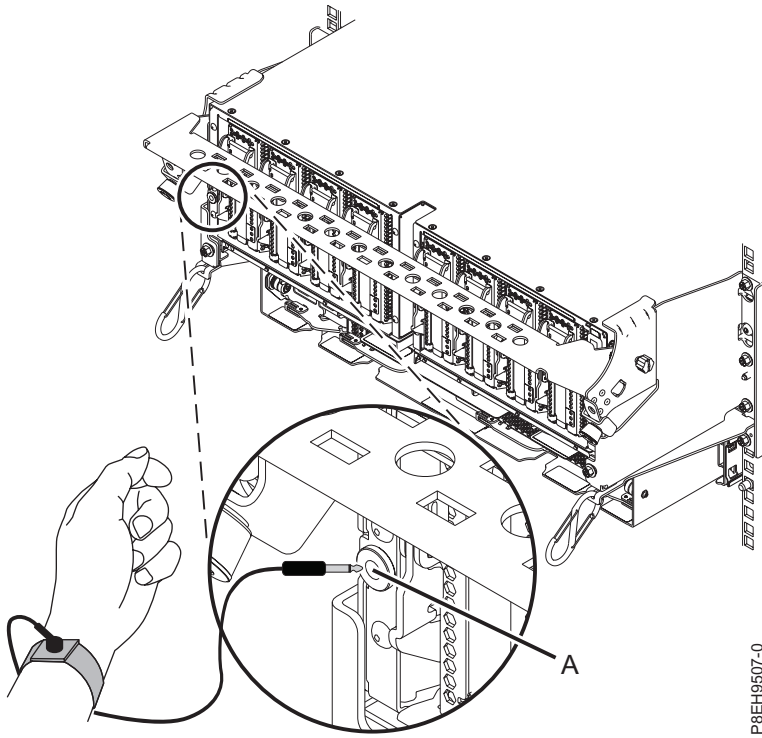

Figure 1. Attaching the wrist strap to the rear ESD jack
- a. Attach the wrist strap. Your system has an electrostatic discharge (ESD) jack. Plug the wrist strap into the ESD jack that is located at the rear of the system. See Figure 1 on page 2.